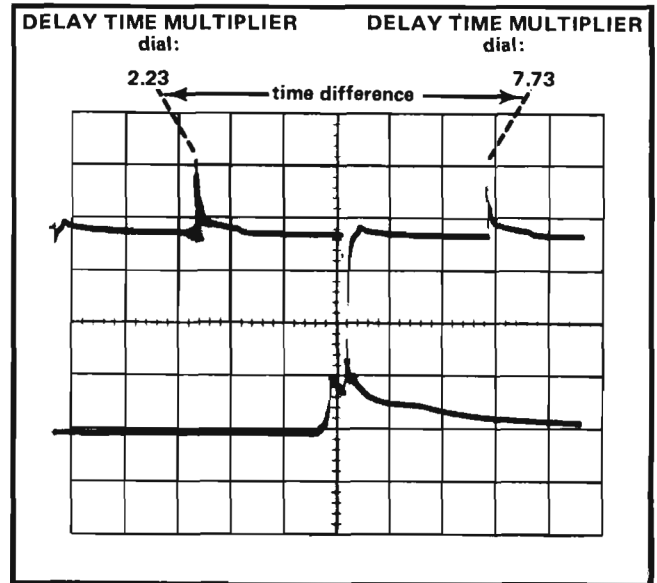

Fig. 2-12. Measuring time difference using delayed sweep.
2. Set the VOLTS/DIV selector to produce a display about three divisions in amplitude (see Fig. 2-12).
Example: Assume the first dial setting is 2.23 and the second dial setting is 7.73 with the TIME/DIV set to 5 μ s (see Fig. 2-12).